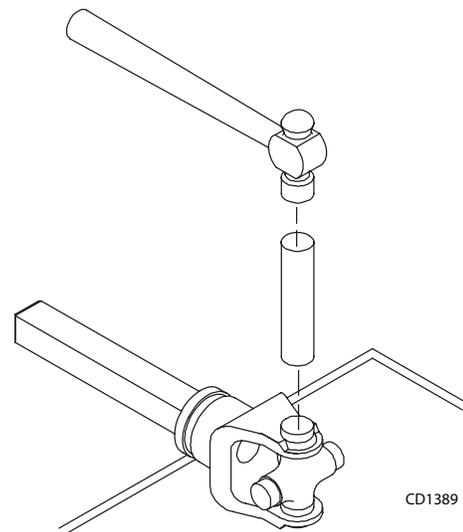

Figure 20
2. Seat cups by placing a drift or socket (slightly smaller than the cup) on cup and rapping with a hammer. See Figure 20. Install snap ring and repeat on opposite cup.